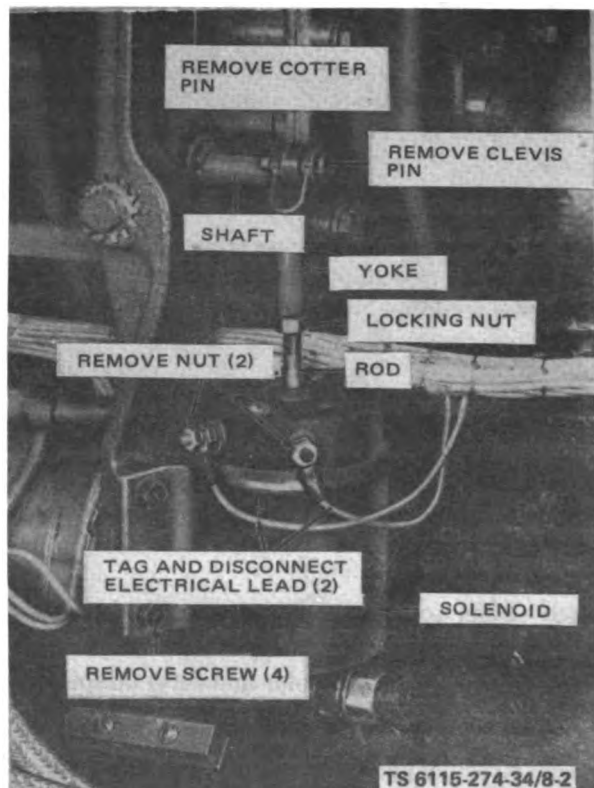
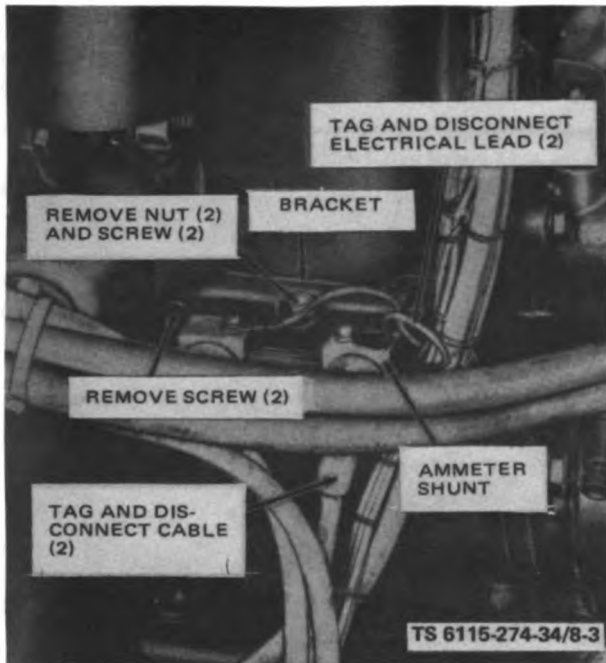

Figure 8-2. Air Intake Housing Solenoid, Removal and Installation
Figure 8-3. Ammeter Shunt and Bracket, Removal and Installation
(3) Refer to figure 8-2 and remove cotter pin and clevis pin, thus separating yoke from shaft.
(4) Tag and disconnect electrical leads.
(5) Remove four screws and remove solenoid.
(6) Tag and disconnect cables (fig. 8-3).
(7) Tag and disconnect electrical leads.
(8) Remove screws and remove shunt and bracket.
- (11) Reconnect electrical leads and cables to starting motor and solenoid.
- (12) Refer to figure 8-3 and install shunt and bracket with screws.
- (13) Connect electrical leads and cables.
- (14) Refer to figure 8-2 and install solenoid with four screws.
- (15) Connect electrical leads.
- (16) Install cotter pin and clevis pin connecting yoke and shaft.